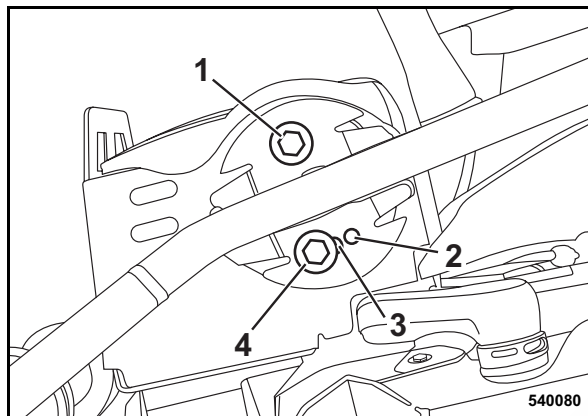

Fig. 11
The steering bow can be adjusted to the height of the operator by using the bore holes (2), (3) and (4) (Fig. 11):
(2) lowest position
(3) middle position
(4) highest position
- Loosen the screws (1) on both sides
- Loosen the screws (4) on both sides and pull them out.
- Tighten screws (1) and (4) on both sides.